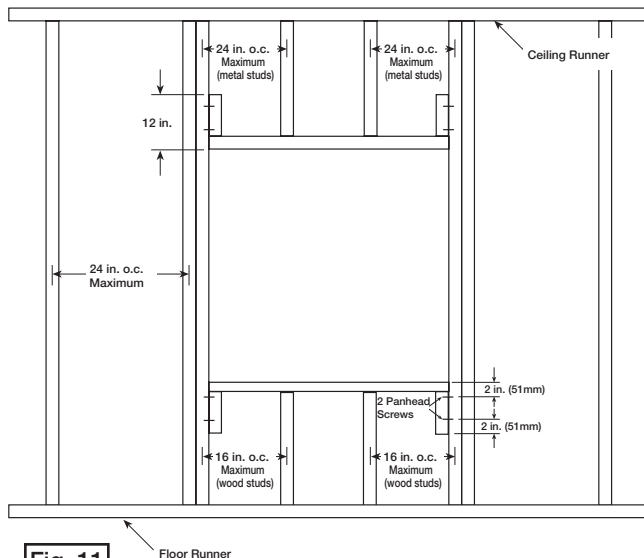

Fig. 11
- Gypsum wall board must be fastened 12 in. (305mm) on center to all stud and runner flanges surrounding opening (see **Fig. 11**).